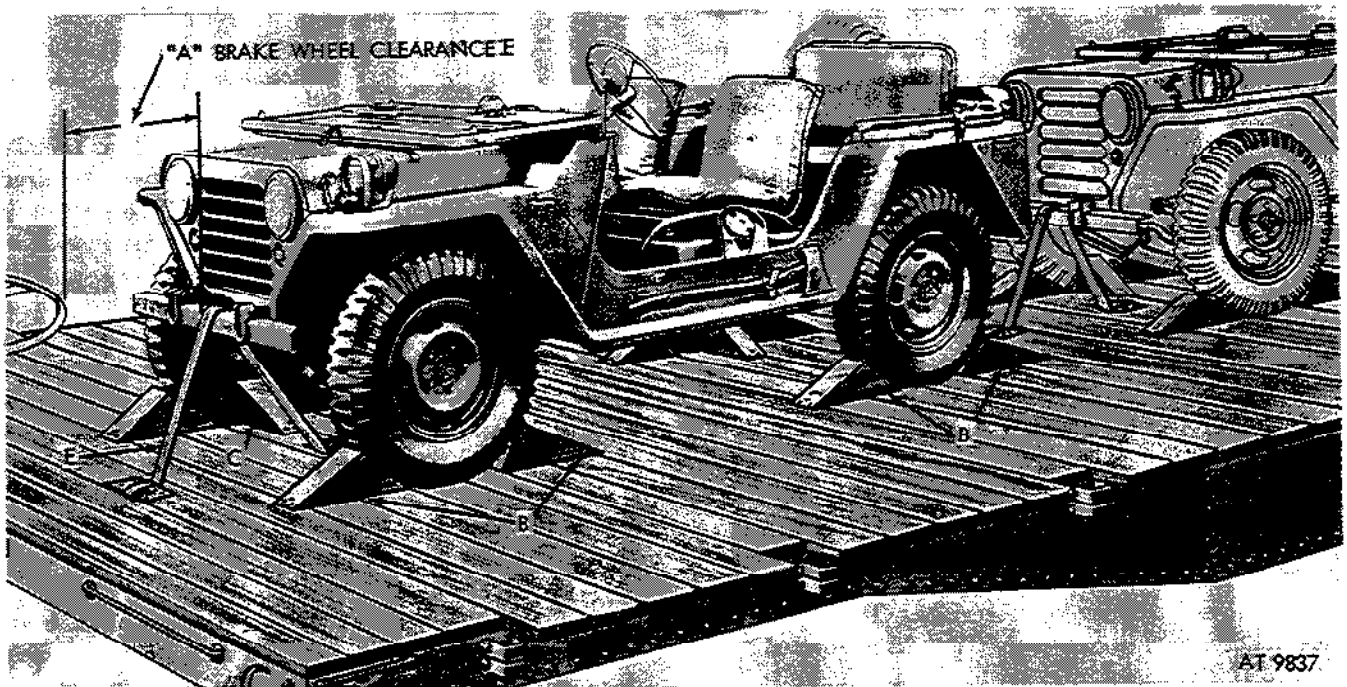

Figure 4-1. Methods of blocking the 1/4 ton, 4x4, M151, M151A1, and M151A2 on flatcars.
Pamphlet No. MD-7, Rules Governing the Loading of Defense Materiel on Open-Top Cars of Association of American Railroads. Additional blocking may be added, as required, at the discretion of the officer in charge. Doubleheaded nails may be used, except in the lower piece of two-piece cleats. All item reference letters in (2) through (5) below refer to details and locations shown in figures 4-1 through 4-6. The number of vehicles to be loaded will depend upon the length of flatcar.
(b) Inside wheel blocks "C" (6 x 9 x 12 four required per truck, constructed as shown in detail 1, figure 4-6). Locate the 6 x 9 surface of block flush against the inside of each wheel, as shown in figure 4-1. Nail heel of each block to car floor with forty-penny nails and toenail each side of floor with one forty-penny nail.
(c) Vehicle strapping "E" (1-in. No. 14 BW gage, hot-rolled steel, length to suit, two required per truck). Locate strapping "E" over front bumper of vehicle and through rear pintle hook of vehicle, as shown in figure 4-1. Pass strapping "E" over front bumper of vehicle and through, and nail anchor plates to car floor with eight twenty-penny nails. Substitute, if desired, four strands of No. 8 gage, black annealed wire, "E-1" twisted to form cables. Pass the cable over the bumper or through the pulling hook underneath and around random 2 x 4 x 18 cleat "F" with shim "F-1" (detail 6, fig. 4-6). Nail cleat lengthwise to car floor and twist-tighten cables to remove all slack.